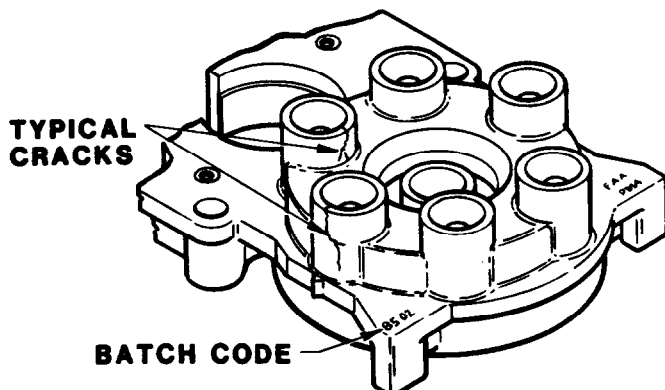

Figure 1
To remove from service distributor blocks that may contain outlet tower cracks. See Figures 1 through 3.
Note A: All blocks are identified with a code. The codes are molded into the outer periphery of the block and only blocks with listed codes are affected. See Figures 1 through 3.
Field reports indicate some brown distributor block towers may crack (ref. Figures 1 through 3). Should the tower or towers crack the indications could be loss of ignition to the associated spark plug(s) or possible misfiring and/or cross firing of the engine.
1. Following published procedures, remove the harness cover or adapter plate from the Magneto. Using a high intensity light, inspect each distributor block tower for open cracks as shown in Figures 1 through 3.